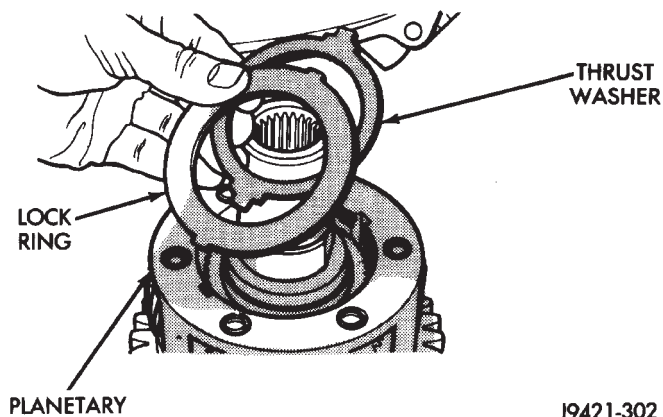

Fig. 43 Planetary Lock Ring And Front Thrust Washer Removal
(3) Remove lock ring and front thrust washer from carrier (Fig. 43). Note that lock ring and thrust washer are both tabbed.